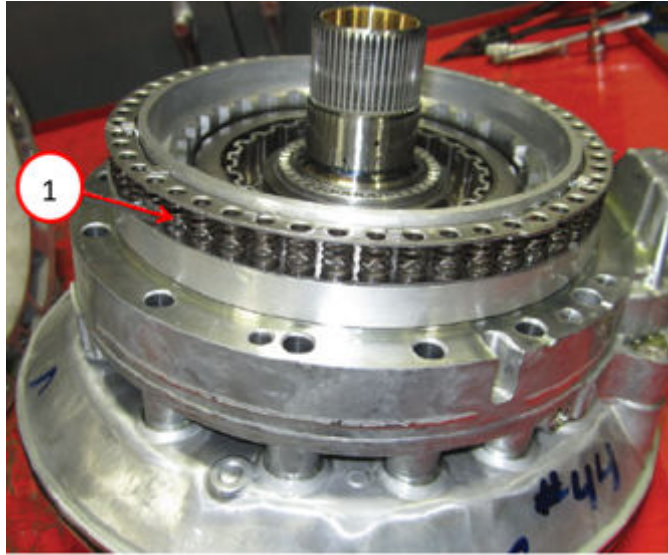

Fig. 36
57. ******Install the clutch B damper spring on the assembly Fig. 36.******